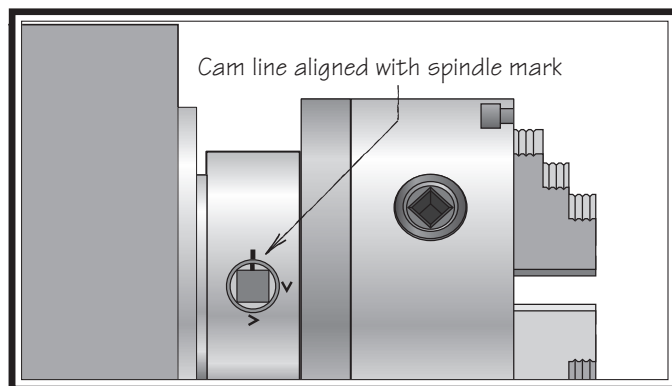

Figure 26. Camlock is fully loosened when the cam line is aligned with the spindle mark.
3. Loosen the camlocks by turning the key counterclockwise until each of the cam lines are aligned with its corresponding spindle mark (see **Figure 26**).